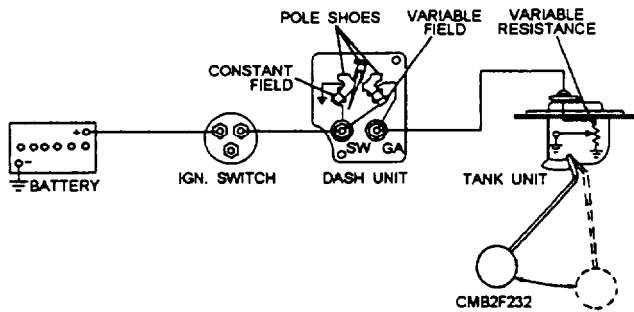

Figure 2-80.—Magnetic fuel gauge.
- The MAGNETIC FUEL GAUGE (fig. 2-80) consists of a pointer mounted on an armature. Depending upon the design, the armature may contain one or two poles. The gauge is motivated by a magnetic field that is created by two separate magnetic coils that